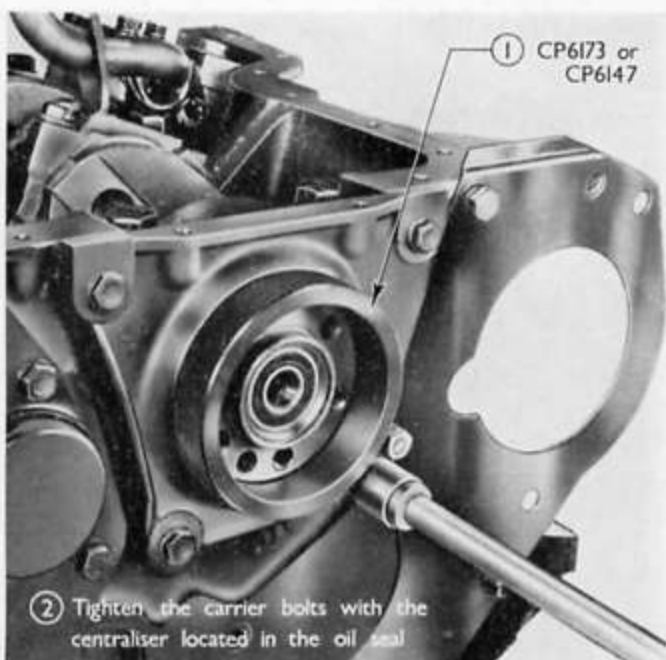

Fig. 20
4. Fit the crankshaft rear oil seal carrier. Using remover/replacer Tool No. CP.6165 together with a 550 handle fit a new seal to the carrier. Locate a centraliser Tool No. CP.6147 or CP.6173 in the seal and fit the carrier to the cylinder block. Do not remove the centraliser until the bolts have been tightened (see Fig. 20).